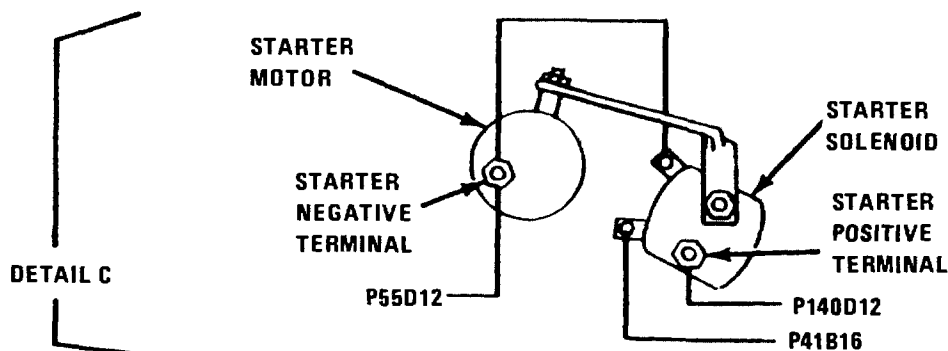

Figure 4-18. Wiring Harnesses, Removal and Installation (Sheet 5 of 5)
(3) Replace defective terminal lugs or connectors.
(4) If disconnected, connect negative battery cable.
g. Installation. Refer to figure 4-18 and install wiring harnesses. Pay particular attention to the following:
(1) Connect harness connectors and wires.
(2) Secure harnesses with clamps.
(3) Join harnesses in common run from one side clamp of engine to opposite side clamp at 6 inch (150 mm) intervals with tiedown straps.
(4) Refer to FO-3 and check harnesses for proper connection.
(5) Connect negative battery cable.